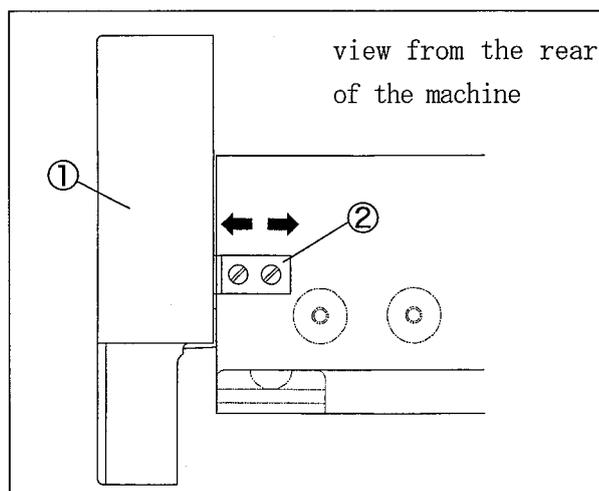

Fig. 2-12
- (2) Install the belt cover support ② and make it touch the belt cover ① tightly. (See Fig. 2-12)